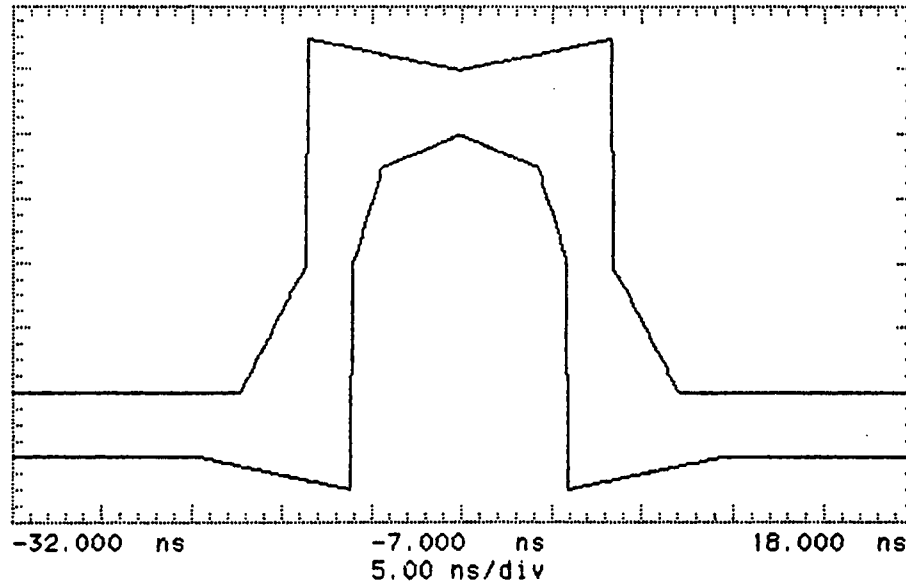

Figure 3-19. 34 Mb/s Pulse Mask
67. Press SHIFT **AUTOSCALE** on the oscilloscope to automatically align the pulse to the mask. Verify that the pulse falls within the mask as shown in Figure 3-19.
If your oscilloscope does not have the Mask feature, obtain a printout of the displayed pulse. Place the mask shown in Figure 3-19 over the pulse and ensure that the pulse falls within the mask (a transparent copy of the mask should be used).
71. Adjust the oscilloscope timebase, delay and vertical sensitivity controls to verify that the pulse meets the mask as shown in Figure 3-19. Use the displayed settings as a guide.